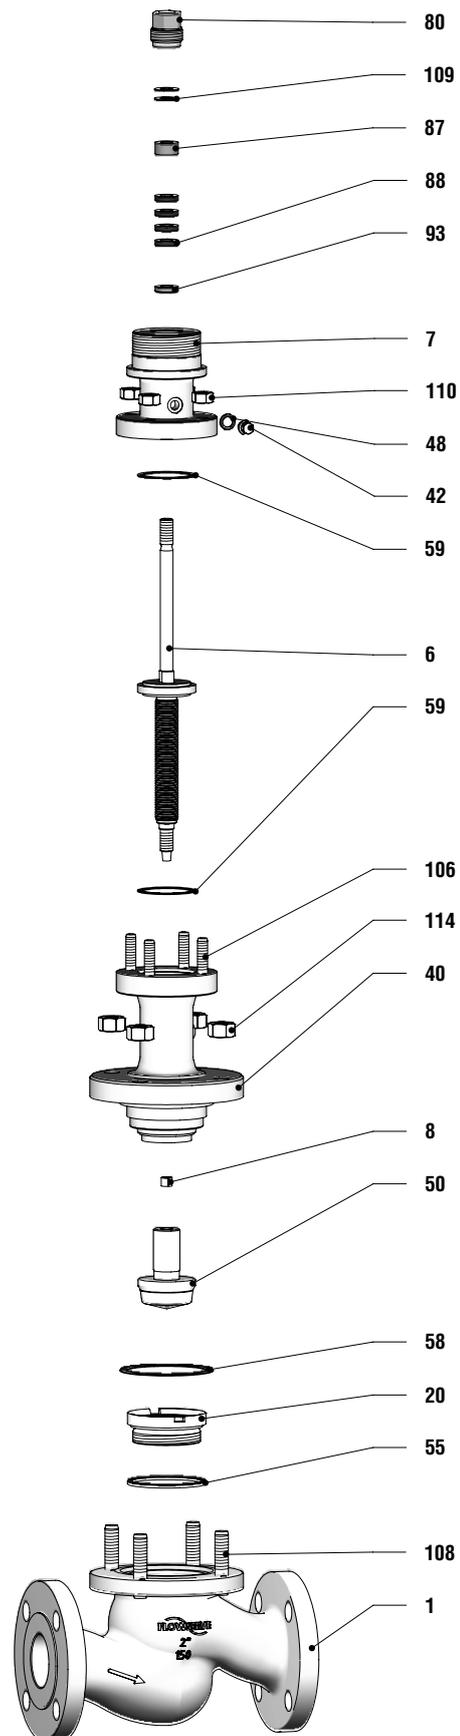

Figure 10: Disassemble / Reassemble the valve with bellows seal assembly for type A designs (Valve parts see Table 13, Page 17)
1. Turn the bonnet nuts (114) counter clockwise to loosen (See Figure 10: Disassemble / Reassemble the valve with bellows seal bonnet type A).
2. Turn the packing follower (80) counter clockwise to loosen.
3. Remove the Belleville springs (109).
4. Remove the upper stem guide (87).
5. Place the Ring Nut Tool (See Section 16: Special Tools) on the stem (50) and turn slowly.
6. Remove the bonnet gasket (58).
8. Remove the seat ring (20) and profile ring (55).